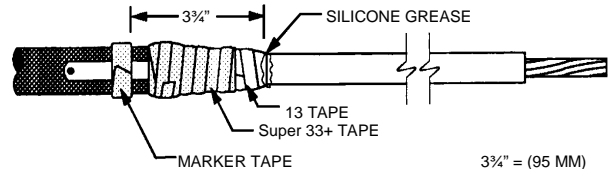

Figure 5
5. Wrap one half-lapped layer of highly stretched vinyl tape (e.g. Scotch™ Super 33+ Tape, not supplied in kit) over mastic strip and ground strap coil, to edge of previously applied 13 tape (**Figure 5**).
1. Place a marker tape 3 3/4" (95 mm) back from the end of the 13 Tape (**Figure 5**).
2. Cover the edge of the 13 Tape with a liberal coating of silicone grease (**Figure 5**). **NOTE: On this product, the silicone grease does not serve as a lubricant. It must be used to fill the step at the 13 Tape leading edge.** The silicone grease may also be used to fill in cable surface defects and can be applied over the ground strap seal to aid in core removal (step C-4).